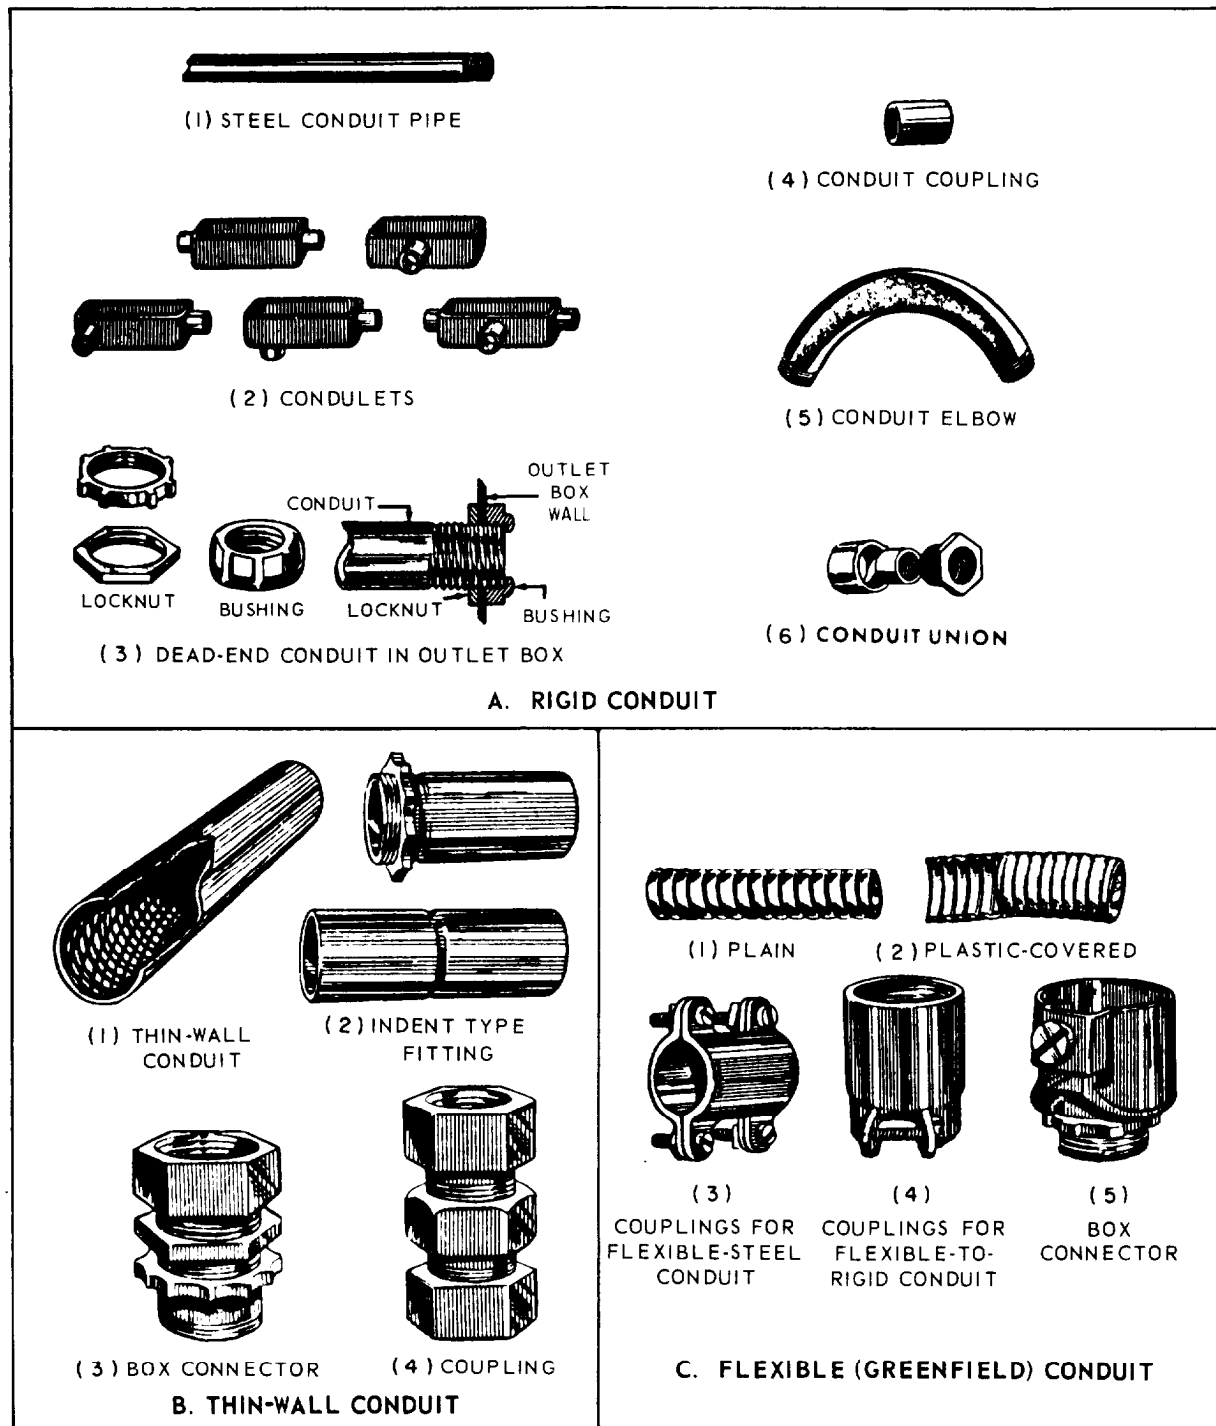

Figure 9-15. Types of conduit and their associated fittings.
conduit used in Navy construction is generally classified as RIGID, THIN-WALL, or FLEXIBLE conduit. The three types of conduit and their associated fittings are shown in figure 9-15.
for connecting rigid metal conduit are shown in figure 9-15, view A. The use of rigid conduit involves a good deal of cutting, bending, and threading of lengths. An ordinary hacksaw or special wheel pipe cutter is used for cutting, while a ratchet type of mechanical die is used for thread-cutting conduit pipes. Bending of pipes can be undertaken both manually, using a bending tool commonly called a hickey, and hydraulically. A hydraulic bender is recommended for making smooth and accurate bends.
CONDULETS (fig. 9-15, view A (2)) are a convenient way of making bends, especially in conduit that will be exposed to the elements. They are heavily used on sharp corners and also to reduce the number of bends made in a run of conduit.
THIN-WALL CONDUIT.— Electric metallic tubing (EMT) or thin-wall conduit, as it is better known, is a type of conduit with a wall thickness quite a bit less than the rigid conduit. It is made in sizes from 1/2 to 2 in. in diameter. Thin-wall conduit cannot be threaded; therefore, special types of fittings (fig. 9-15, view B) must be used for connecting pipe to pipe to boxes.
FLEXIBLE CONDUIT.— Flexible conduit (fig. 9-15, view C), also called Greenfield, is a spirally wrapped metal band wound upon itself and interlocking in such a manner as to provide a round cross section of high mechanical strength and flexibility. It is used where rigid conduit would not be feasible to install and requires no elbow fittings. It is made in sizes from 1/2 to 3 in. in diameter. Greenfield is available in two types: the plain or standard unfinished-metal type